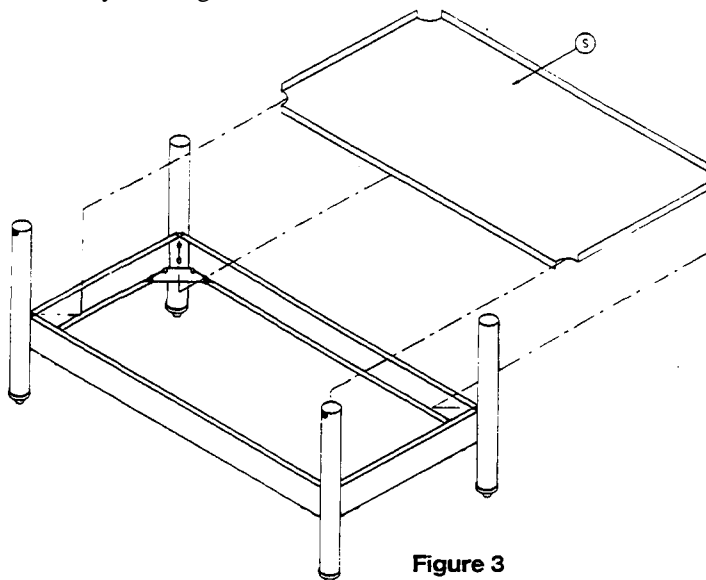

Figure 3
- *7. Install optional shelf Item "S" between leg assemblies. Down flange on shelf will be to front side of stand. No mounting screws are necessary. See Figure 3.